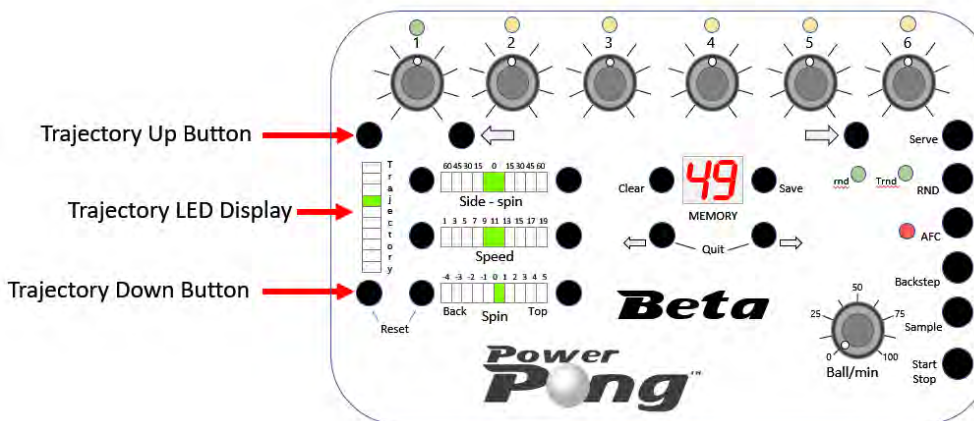

Figure 3-3
3.2.3 Ball Trajectory Buttons / LED Display (Figure 3-3)